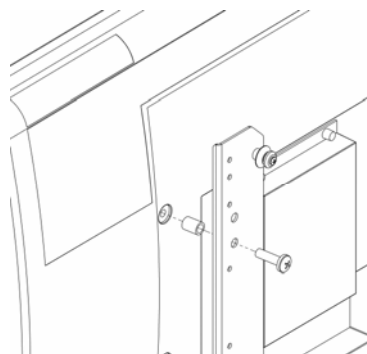
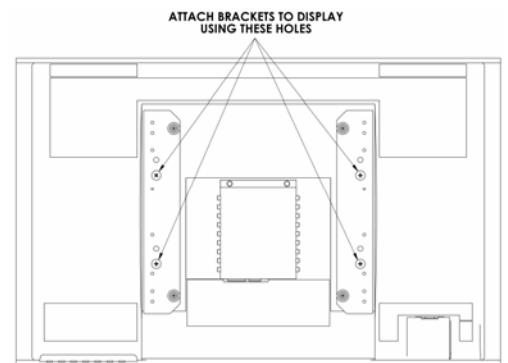

Figure 4
Figure 5
2. Place Nylon spacers over mounting holes on back of screen. Attach mounting brackets to the display using the M10 screws (see Figure 4 & Figure 5).